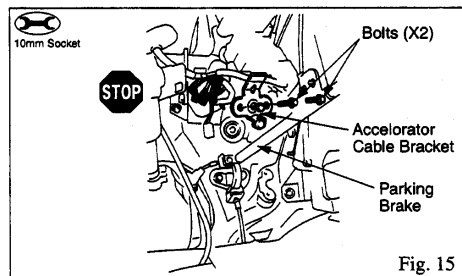

Fig. 15
(16) Remove the accelerator cable bracket bolts and pull the bracket out of the rubber bushing. (2 Bolts) (Fig. 15)